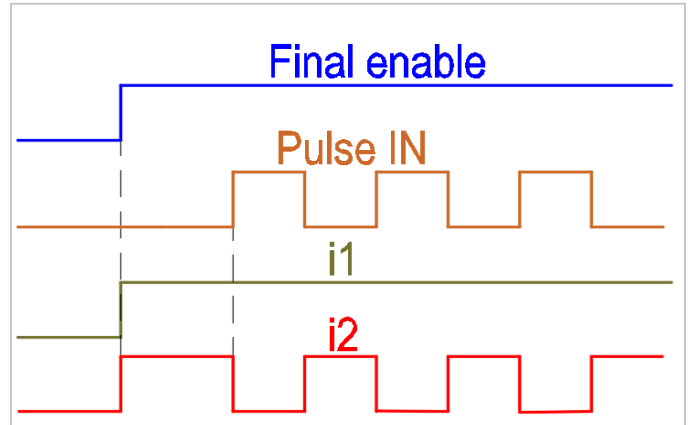

Fig. 19
- Set signal “external enable” (X6 pin 32) to high. DPDP output is final enabled (see Fig.19). $i1$ according Current_Set_Point_1, $i2=i1$.